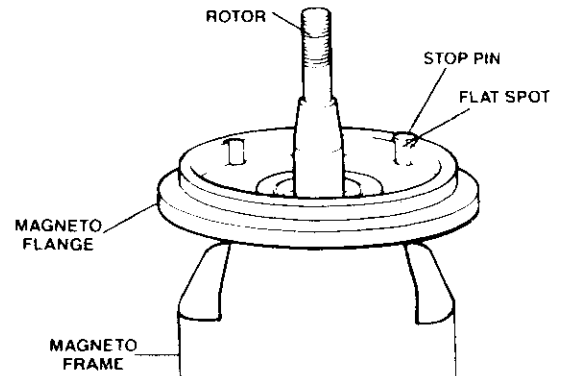

Figure 3.3.4C
1. Inspect the stop pin for looseness, cracks or corrosion. None of these conditions are acceptable. Replace magneto frame as necessary. (See Figure 3.3.4C).